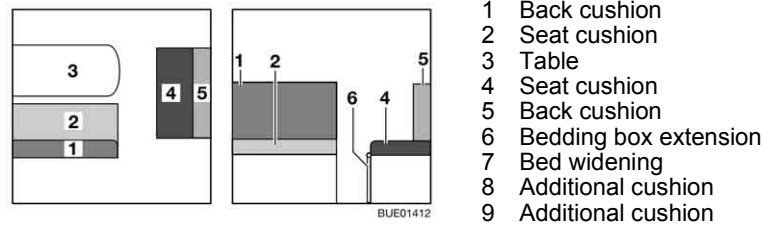
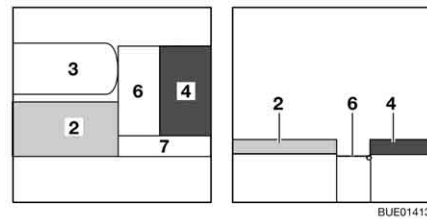
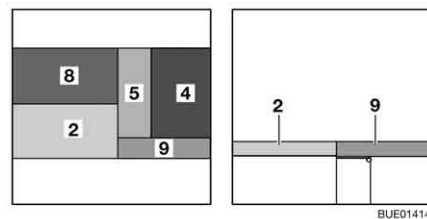

Fig. 118 Prior to conversion
Fig. 119 During conversion
Fig. 120 After conversion
- Convert the table (Fig. 118,3) to a bed foundation (see section 6.12).
- Unfold the bedding box extension (Fig. 118,6).
- Attach the bed widening (Fig. 119,7) to the bedding box and to the bedding box extension.
- Remove the back cushion (Fig. 118,1) and lay it aside.
- Remove the back cushion (Fig. 118,5) and place it on the bedding box extension (Fig. 119,6).
- Place the additional cushion (Fig. 120,8) on the table.
- Place the additional cushion (Fig. 120,9) on the bed widening (Fig. 119,7).